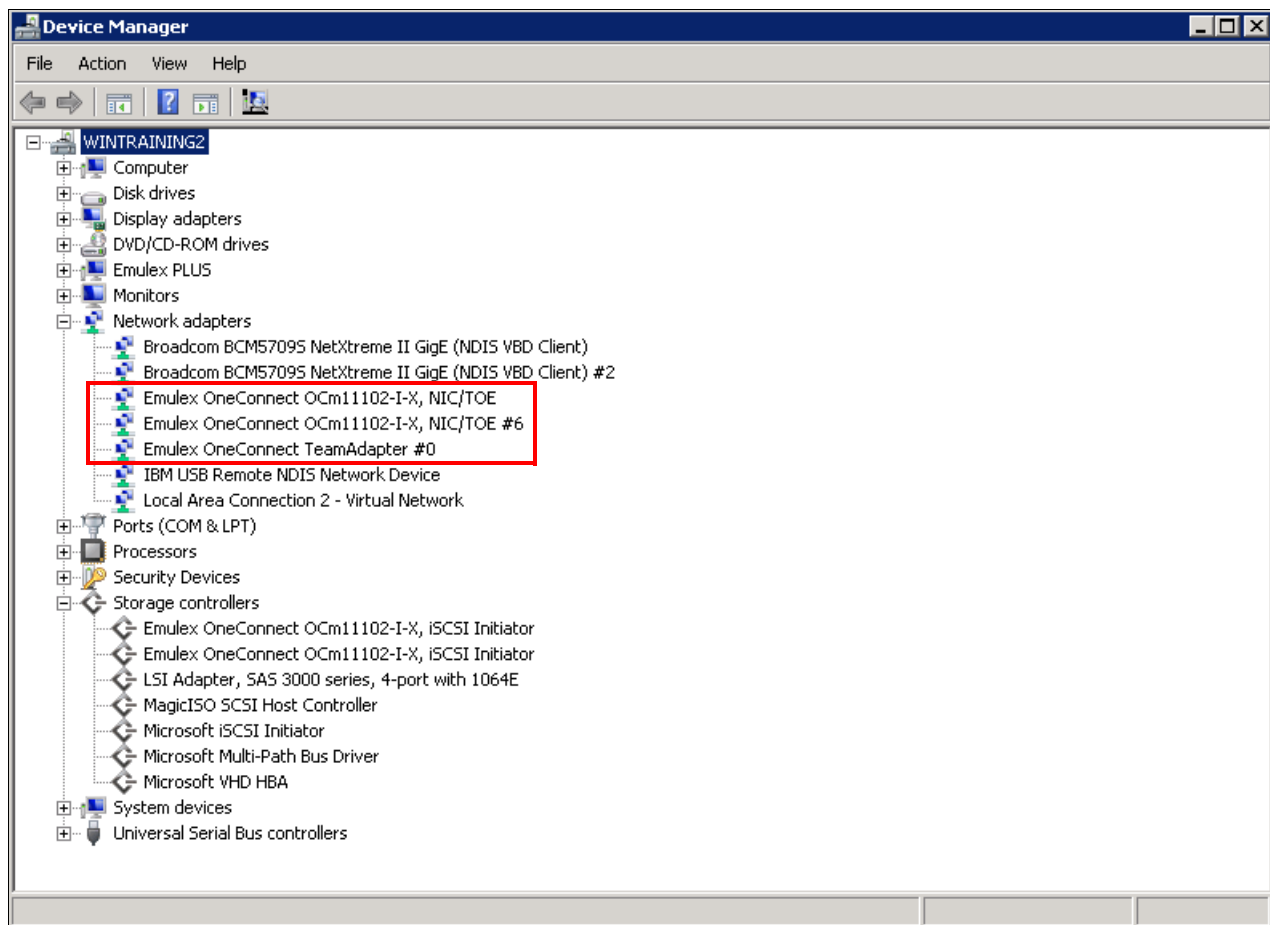
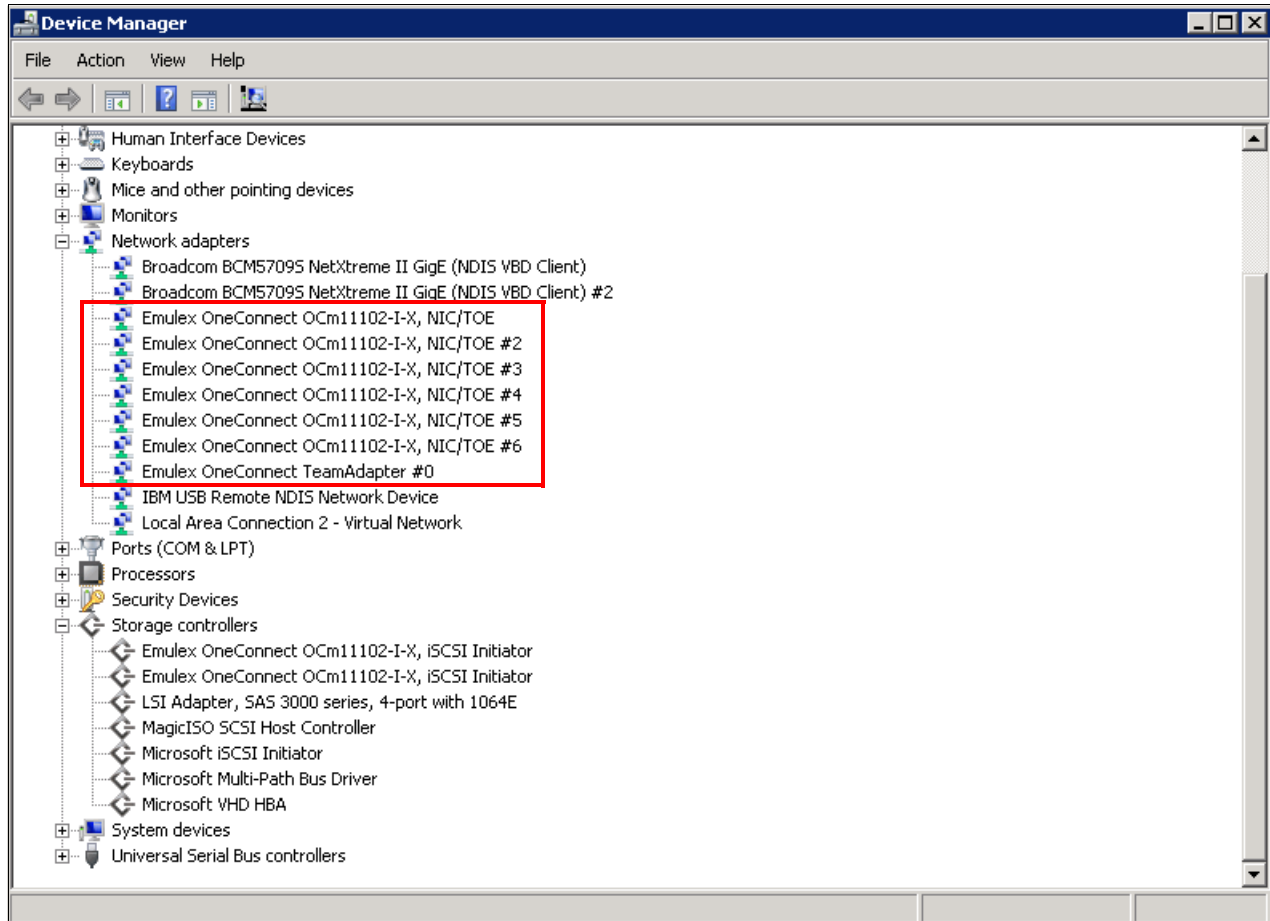

Figure 7-30 Emulex PNIC mode as shown in Windows device manager
Figure 7-31 Emulex in vNIC mode as shown in Windows Device Manager
The same configuration procedure applies for vNIC and pNIC mode. The only difference is that, in vNIC mode, you have more adapters to choose from as highlighted in Figure 7-30 and Figure 7-31.
1. In the Device Manager window (Figure 7-31), determine the available adapters.